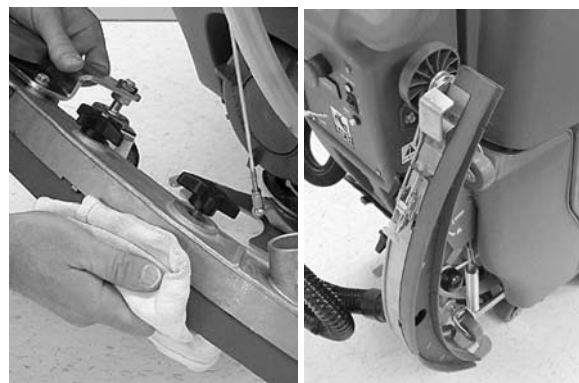

FIG. 49
- Wipe the squeegee blades clean. When machine is not in use, raise the squeegee assembly off the floor or hang it on the storage bracket (Figure 49).